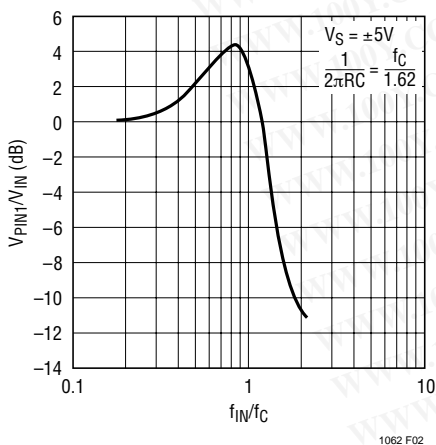

Figure 2. Amplitude Response of Pin 1
Every node of the LTC1062 typically swings within 1V of either voltage supply, positive or negative. With the appropriate external (RC) values, the amplitude response of all the internal or external nodes does not exceed a gain of 0dB with the exception of Pin 1. The amplitude response of the feedback node (Pin 1) is shown in Figure 2. For an input frequency around $0.8 \cdot f_c$, the gain is 1.7V/V and, with $\pm 5V$ supplies, the peak-to-peak input voltage should not exceed 4.7V. If the input voltage goes beyond this value, clipping and distortion of the output waveform occur, but the filter will not get damaged nor will it oscillate. Also, the absolute maximum input voltage should not exceed the power supplies.